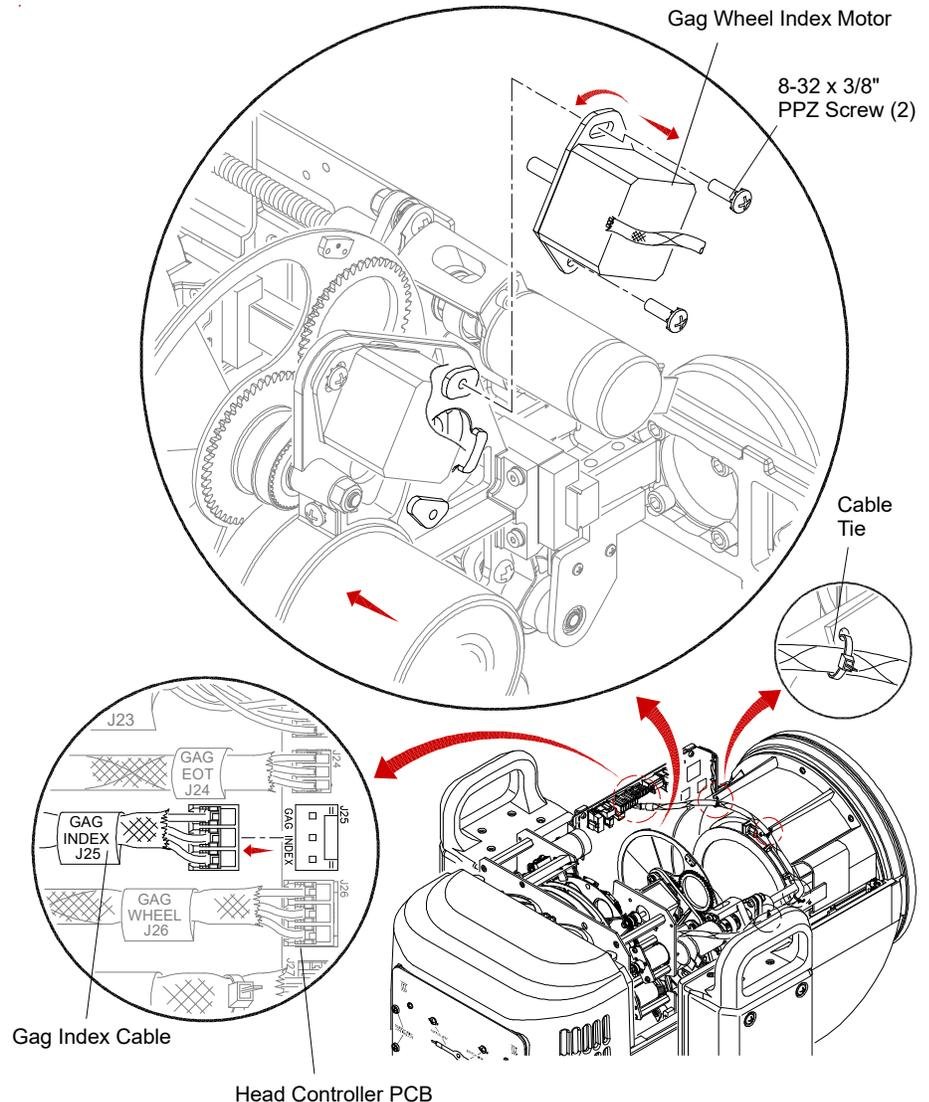

Figure 3-30: Removing Gag Wheel Index Motor
- Step 4. At Head Controller PCB, disconnect Gag Index Cable from J26 (**Figure 3-30**).